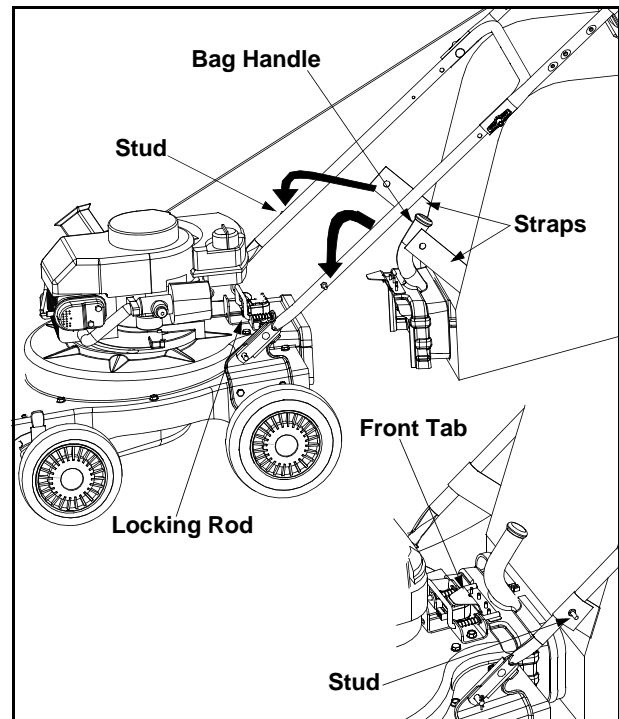

Figure 5
- Grasp bag handle with one hand and slide locking rod on mounting bracket with other hand toward engine. Use the end of mounting bracket as leverage when sliding the locking rod. See Figure 5.
- Remove bag from over the rim of the discharge opening. Refer to Figure 5.